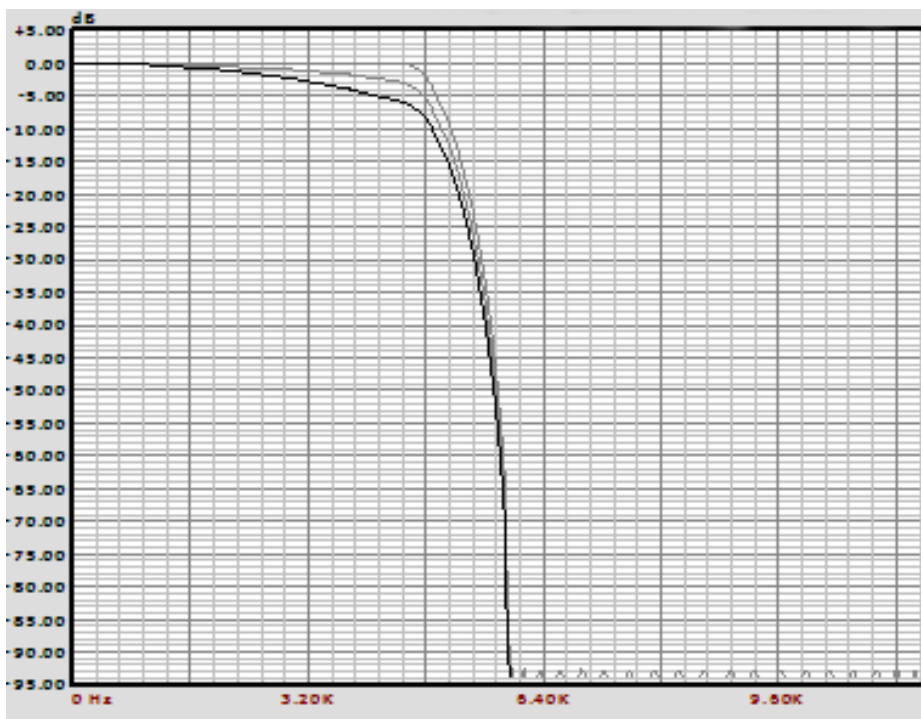

Figure 2-7: Effect of Lowpass Filter Shape Control on 5 kHz Lowpass Filter
C) Hold down the soft key under LPF SHAPE and turn the knob to determine whether the input lowpass filter is down 0.1 dB, 3 dB, or 6 dB at the lowpass filter cutoff frequency. By making the transition between the passband and stopband progressively more rounded and gentle, each step trades off duller sound against less ringing. See Figure 2-7 on page 2-23.